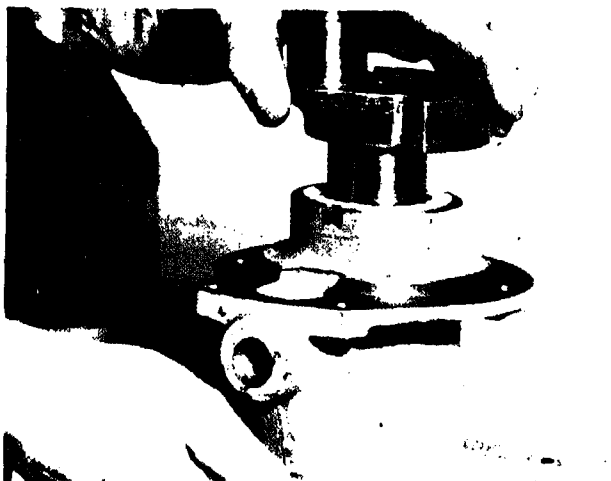

Fig. 12-2-26. Install crankshaft
3. Install crankshaft in crankcase end of support housing. Fig. 12-2-26.